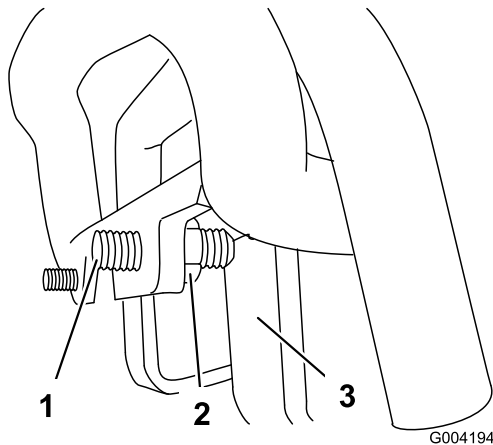

Figure 56
- 3. If the machine veers to the **left**, loosen the **right** jam nut and adjust the tracking set screw on the front of the traction control (Figure 56).
- 4. If the machine veers to the **right**, loosen the **left** jam nut and adjust the tracking set screw on the front of the traction control (Figure 56).